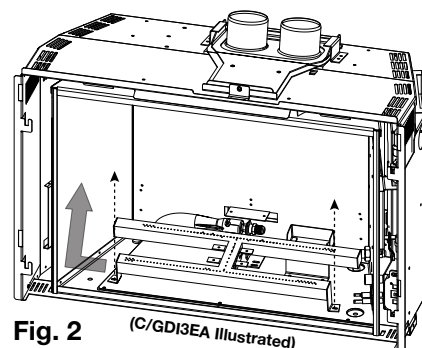

Fig. 2 (C/GDI3EA Illustrated)
- ☐ 3. Remove the 2 screws holding the burner tube, then slide it to the left, up, and out (**Fig. 2**).